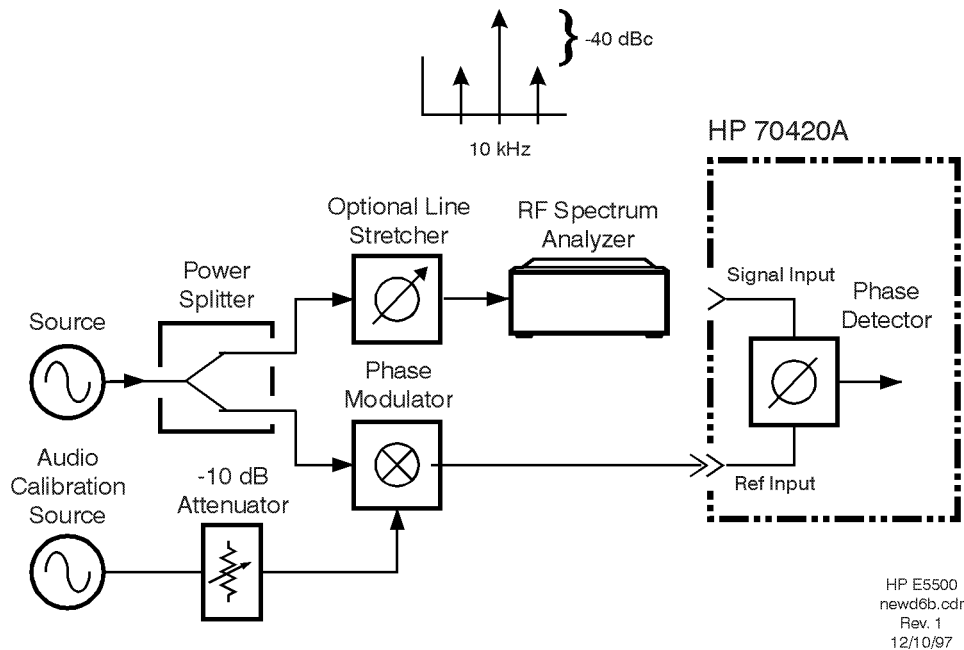

Figure 8-15 Measuring Carrier-to-sideband Ratio of the Modulated Port
- 3 Using the RF spectrum analyzer or modulation analyzer, measure the carrier-to-sideband ratio of the phase modulation at the phase detector's modulated port and the modulation frequency. The audio calibration source should be adjusted such that the sidebands are between -30 and -60 dB below the carrier and the audio frequency is between 50 Hz and 50 MHz. See Figure 8-15.